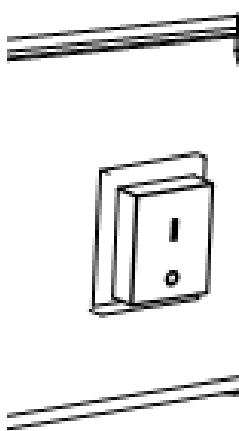

Figure 2
a. Turn the power switch to position I and check that the fan starts running correctly. (Fig 2.)